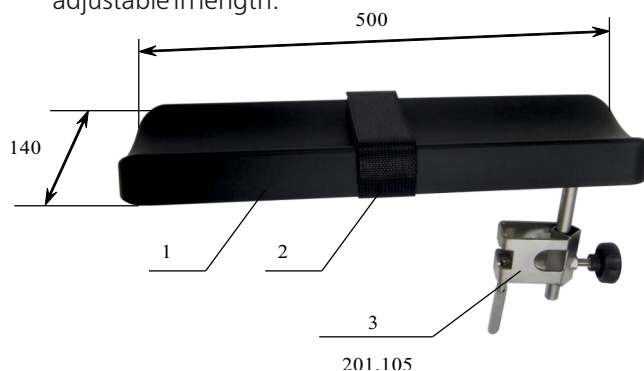

Figure 3. Injection plate.
3. **Injection plate** (arm support) (Figure 3). Profiled bed 1 is made of molded urethane foam, and stainless mounting elements. It is height-adjustable and rotates around a vertical axis. Equipped with a clip 201.105 and a restraint strap.